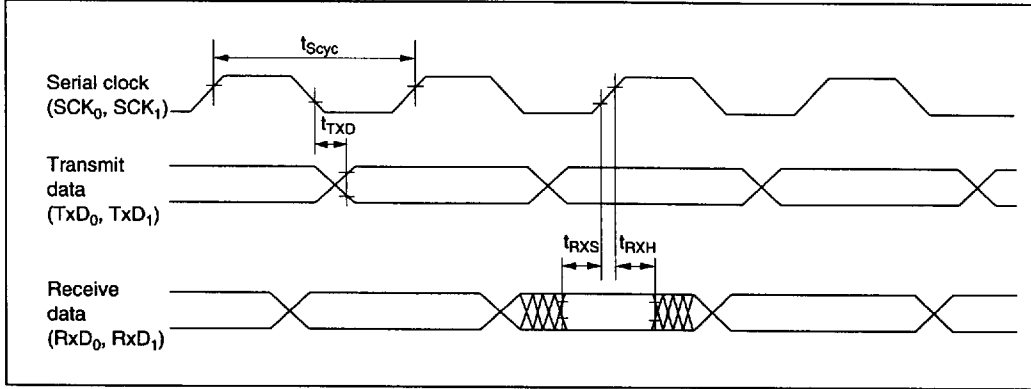

Figure 22-16 SCI Input/Output Timing (Synchronous Mode)
22.3.6 SCI Timing	Figures 22-16 and 22-17